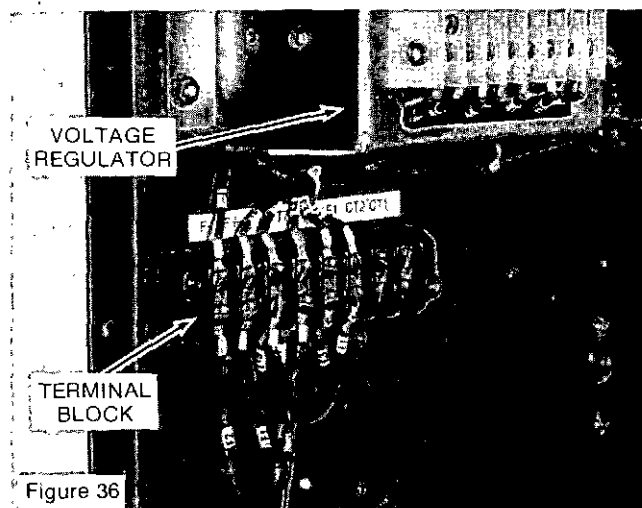

Figure 36
- Connect the following leads to the corresponding points on the terminal strip on the regulator panel: (See Figure 36).